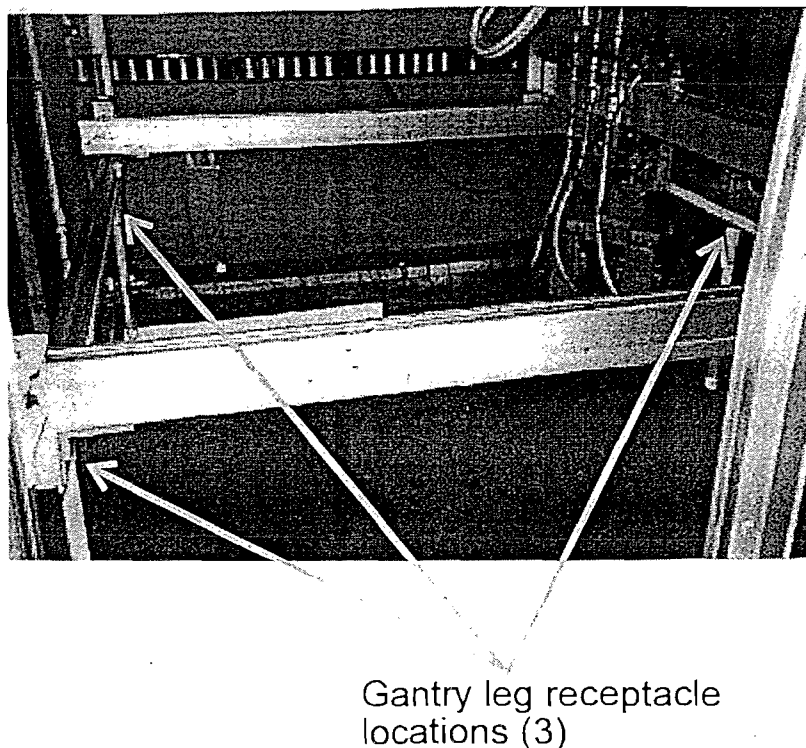

Figure 2.2.1: Gantry Leg Receptacle Locations
2.2.7 If gantry work frame legs are not installed, remove three (3) legs from the storage container and install them on the work frame. There should be 1 leg on the forward side and 2 legs on the aft side of the workframe. The leg receptacles are on the underside of the work frame. (Figure 2.2.1)